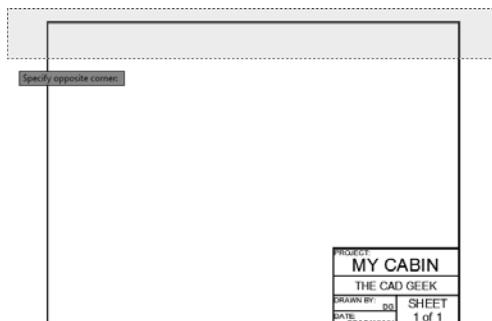

FIGURE 14.7 Stretching the upper edge of the title block
2. Start the STRETCH command, and select the upper portion of the title block using a crowning window as shown in Figure 14.7.